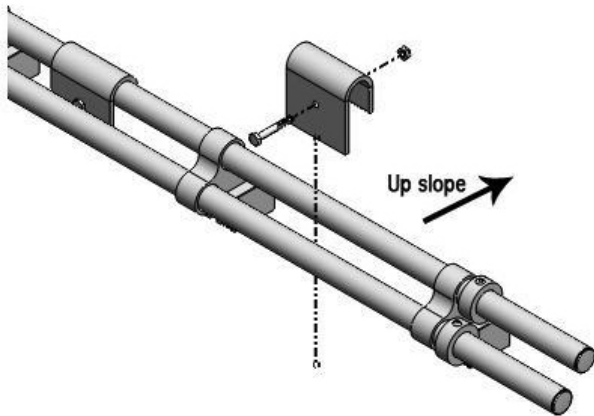

Fig. 6: ASG3000
a. The Ice Flag for the model ASG3000 sits between the pipes (Figure 6).